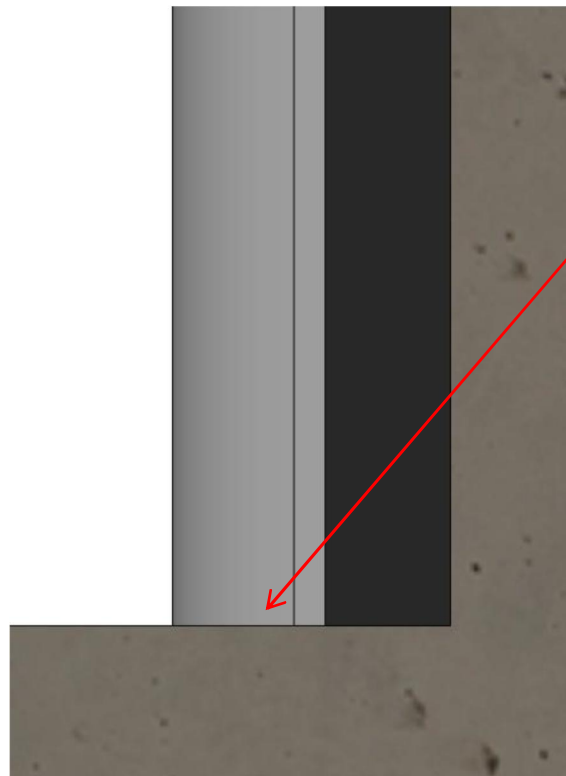
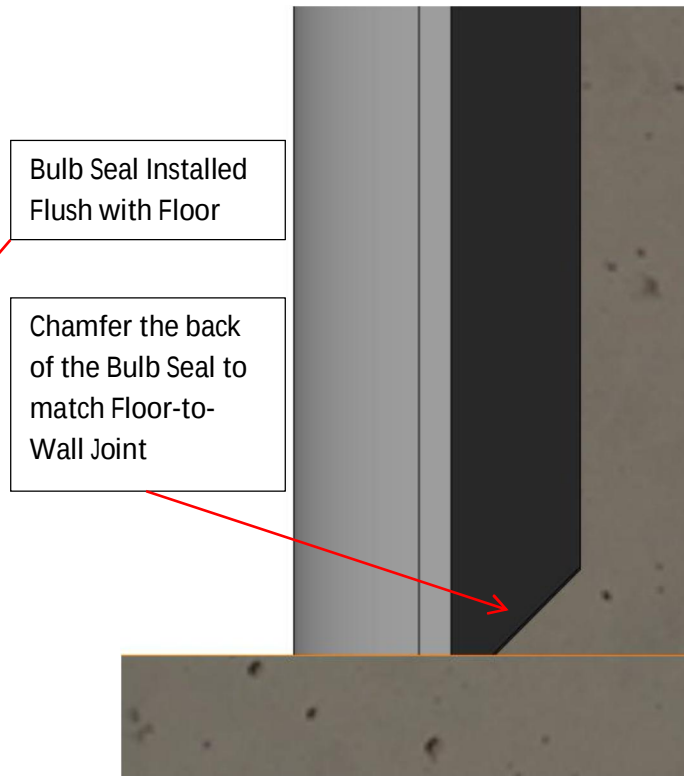

Figure 11
Figure 11a
2. Test fit side pieces – ensure that the bottom of the side bulb seals is in contact with the floor over the entire bottom area of the bulb seal (composite backing and bulb) (SEE FIGURE 11) (side view). IF THE WALL TO FLOOR JOINT HAS A FILLET AS SHOWN IN FIGURE 11a, THEN EITHER CHIP AWAY THE CHAMFER TO MAKE SQUARE, OR CHAMFER THE BOTTOM CORNER OF THE BULB SEAL BACKER TO MATCH THE WALL TO FLOOR JOINT.